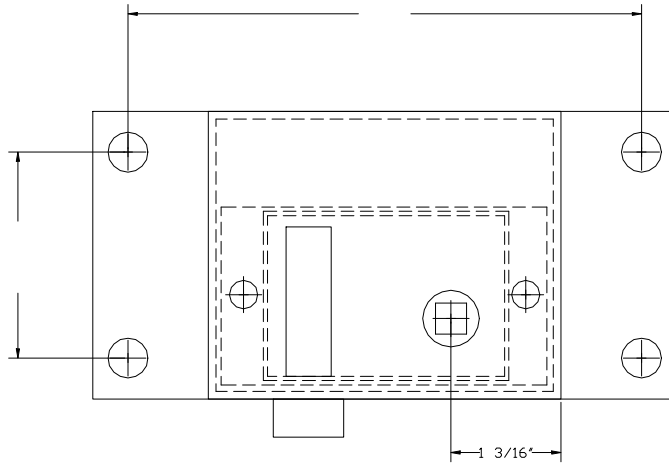
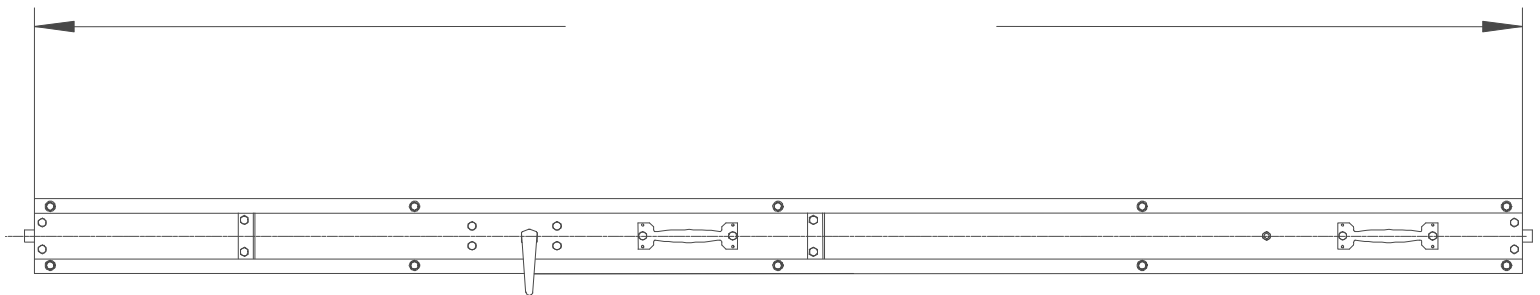

FIG. 5
FIG. 6
9. For a single point lock assembly (for doors with a hinge side length under 8'0"), provide the Dimensions required in fig. 5 to determine whether the lock assembly must be modified for old style mounting. For doors with hinge side length of 8'-0" or greater, refer to fig. 6 and supply the required dimension.